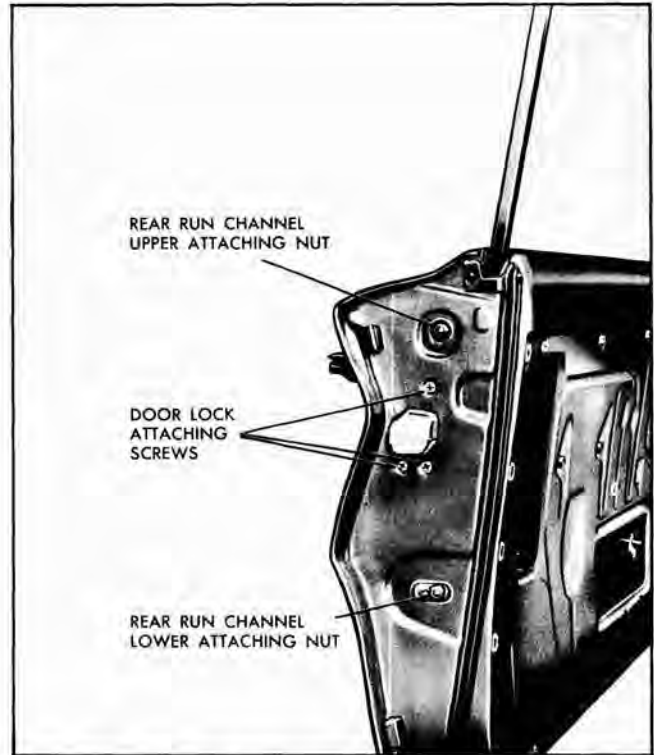

Fig. 13-25 Run Channel and Lock Attachments
2. To adjust the window in or out at rear section, loosen rear run channel lower attaching nut, adjust as required, and tighten nut (Fig. 13-25).
4. Remove bolts securing run channel to lock pillar panel and remove run channel from door (Fig. 13-25).